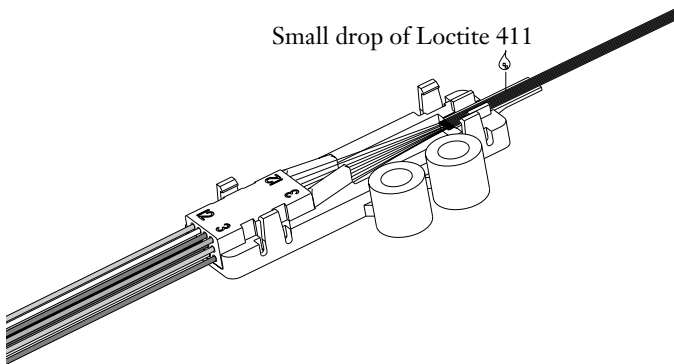

Figure 20
**8.3** Carefully position the the 900  $\mu\text{m}$  sub-assembly into the bottom section of a fan-out body (Figure 20).
Apply a small drop of Loctite 411 adhesive on the ribbon as shown in Figures 20 and 21.